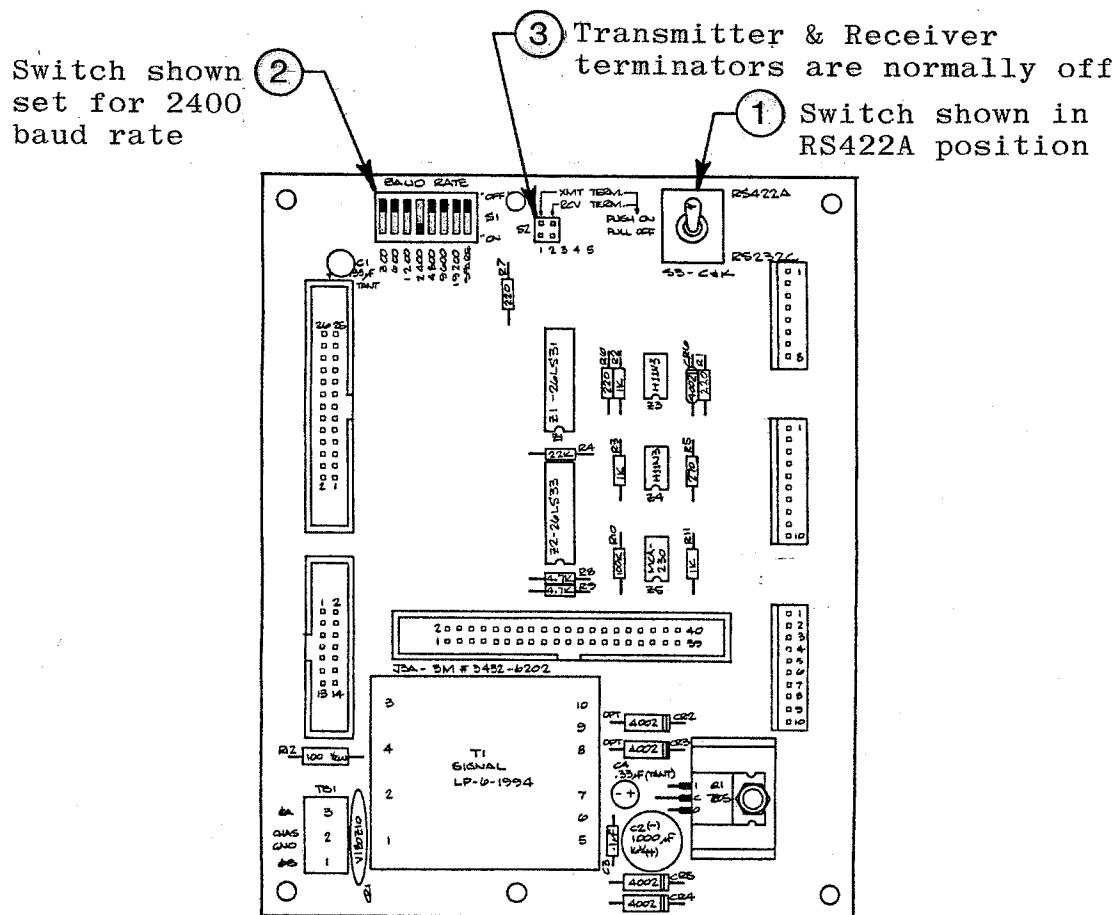

Figure 5-4: RS422A Programmer Interface Board A1566.
2. *RS-232C/RS-422A Select Switch S3* on photo-isolated A1566 Interface Board (Figure 5-4 Item 1) — set to RS-422A (up) position for serial communications between a single computer and several programmers on a RS-422A network.
4. *Terminate Network A1566 Jumper* -- If only one Model 520 is connected to the computer, jumper pins 1 and 2 of the termination header (Figure 5-4, Item 3). If more than one Model 520 is connected, terminate the last unit only; leave the jumper off all other Model 520 termination headers.